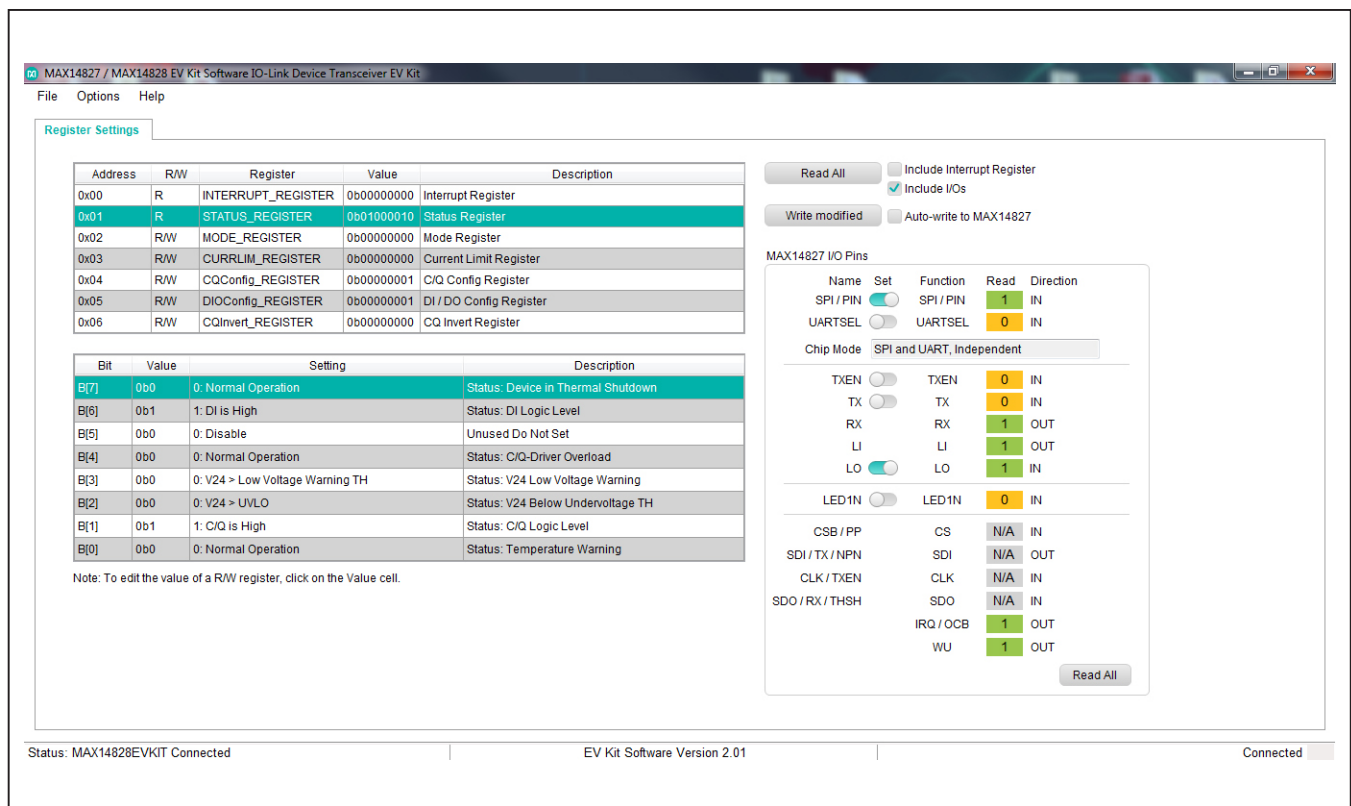

Figure 1. MAX14828 EV Kit Software–EV Kit Connected
- 10) Start the EV kit software by opening the MAX14828 EV Kit software icon on the desktop or in the **Start | Programs | Maxim Integrated** menu. The EV kit software splash screen appears and then the main window appears, as shown in Figure 1.
- 11) Verify that **Connected** is displayed on the status bar at the bottom of the main window (Figure 1).